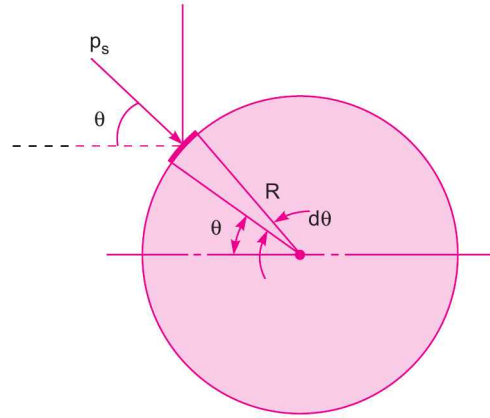

Fig. 14.13 Lift on a rotating cylinder.
- $d\theta$  = Angle made by the length  $ds$  at the centre of the cylinder as shown in Fig. 14.13.
From Fig. 14.13, we have the lift force acting on the small length  $ds$  on the element, due to pressure  $p_s$  as